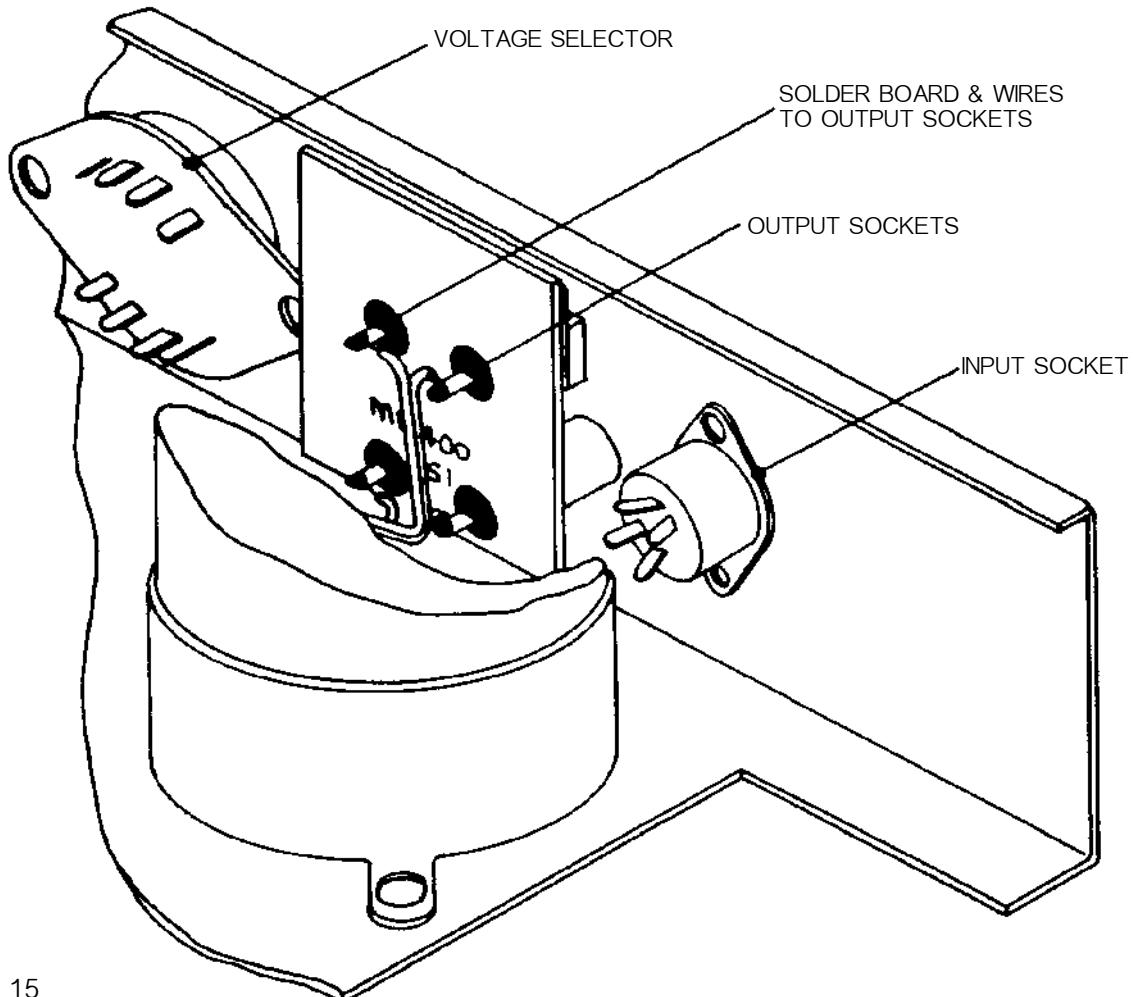

Fig. 15
- Also at s/n 9000 a clamp circuit, on PCB M 12400, was mounted on the output terminal (Fig. 15).